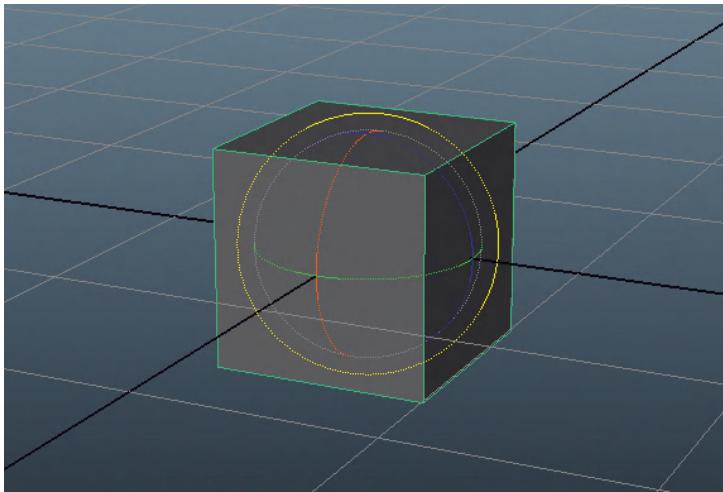

FIG 2.12 An active object with the Rotate Tool active.
Step 8: With the cube still selected, activate the Rotate Tool from the Tool Box (Fig. 2.12).
What's happening here (again) is that there are really four tools – or at least handles in one. Each of the rings in Fig. 2.12 represent an axis around which the active object can be rotated. Drag the yellow circle and the object rotates around the view pane's axis. Dragging the red rotates the object around the X, the green around the Y, and the blue around the Z.